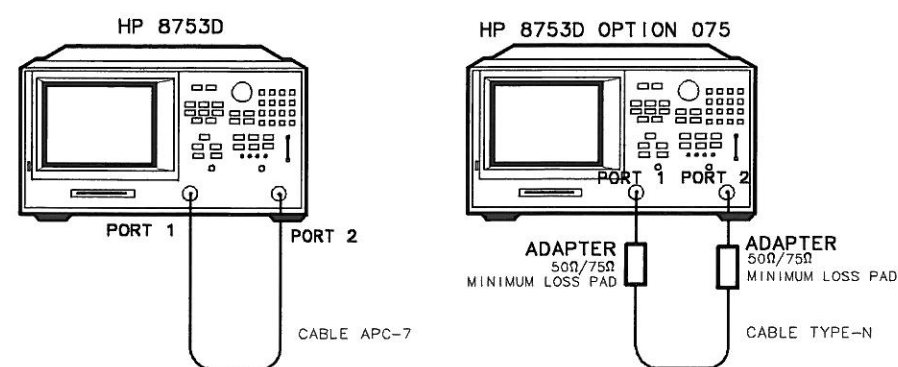

Figure 1-50. Receiver Harmonics Test Setup
19. Connect the equipment as shown in Figure 1-50.